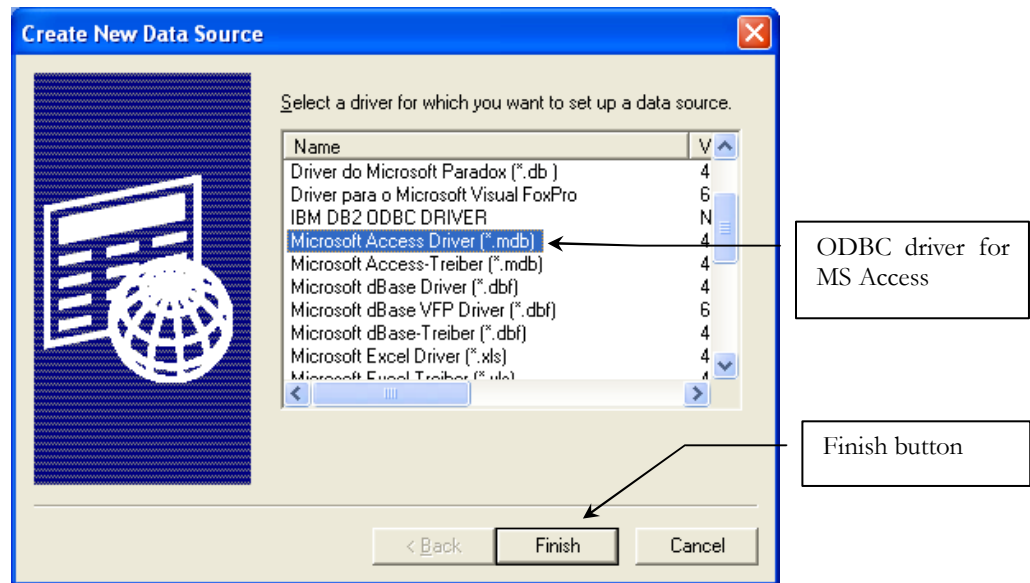

Figure 42
50. The next step is creating a Data Source. The Data Source is the key name that you enter to connect to your database to the Label format. Select the type of database you are using and click finish. For this example, we will use Microsoft Access. Select Microsoft Access Driver and click [Finish]. (Figure 42)